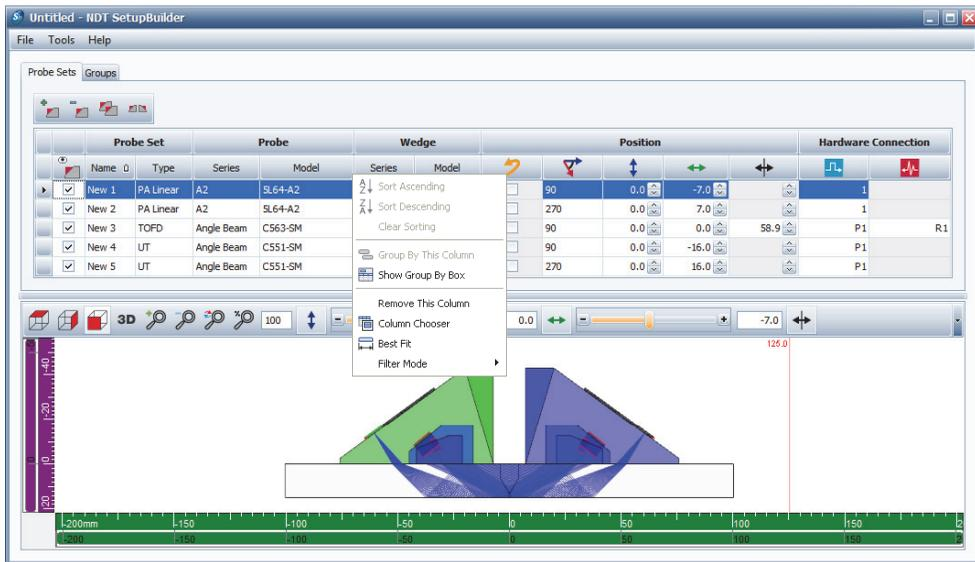

Figure 4-7 Removing a column from a tab
- ◆ Right-click the column header on the **Probe Sets** or **Groups** tab, and then, on the shortcut menu, select one of the following commands (see Figure 4-7 on page 36):